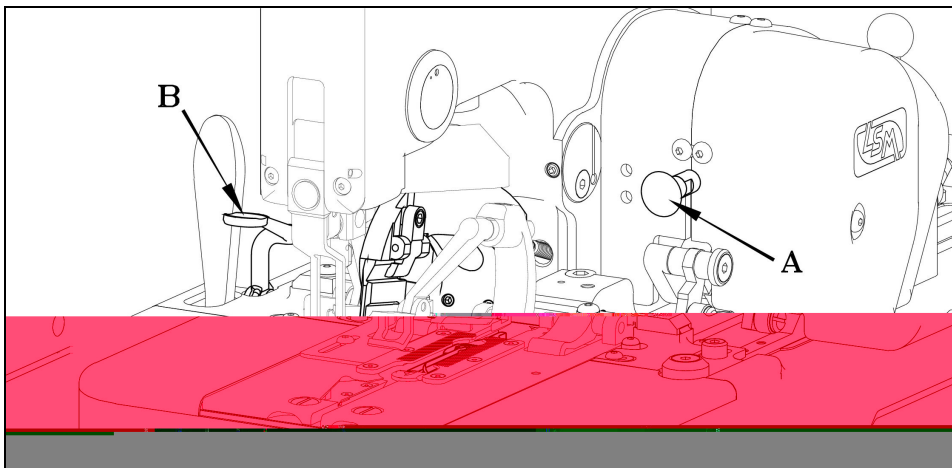

Fig 2
The machine has a release rod which allows the machine to travel through a cycle without sewing. Pull out the release rod (A) in Fig 2 and then depress the start sewing lever (B). When the machine head starts to move, release the rod. The machine will then travel through a complete cycle without sewing. The cutting lever and thread trimmer will operate. The machine can also be stopped at any point in the cycle by using the emergency stop as described above. To complete the cycle, turn on the motor.
The length of the buttonhole is adjustable from a range of 12mm to 32mm. Loosen screw (A) in Fig 2 and move the length plate (B) to the desired length as shown on the length gauge. Change the cutting block to match the length of the buttonhole.